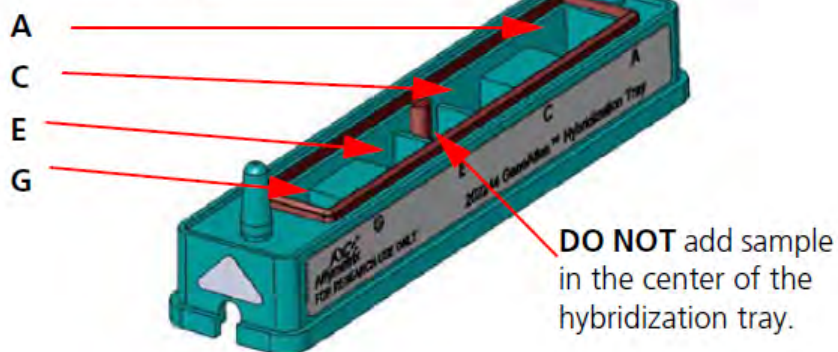

Figure 6 Location of sample wells (A, C, E, and G) on the hybridization tray.
- a. Gently pipet 120 µL of 1X Pre-Hybridization Mix into the appropriate wells of the hybridization tray. See Figure 6. Avoid generating air bubbles.
CAUTION! The center of the hybridization tray is not a sample well. Do not add anything to this area (Figure 6).
See Figure 6.